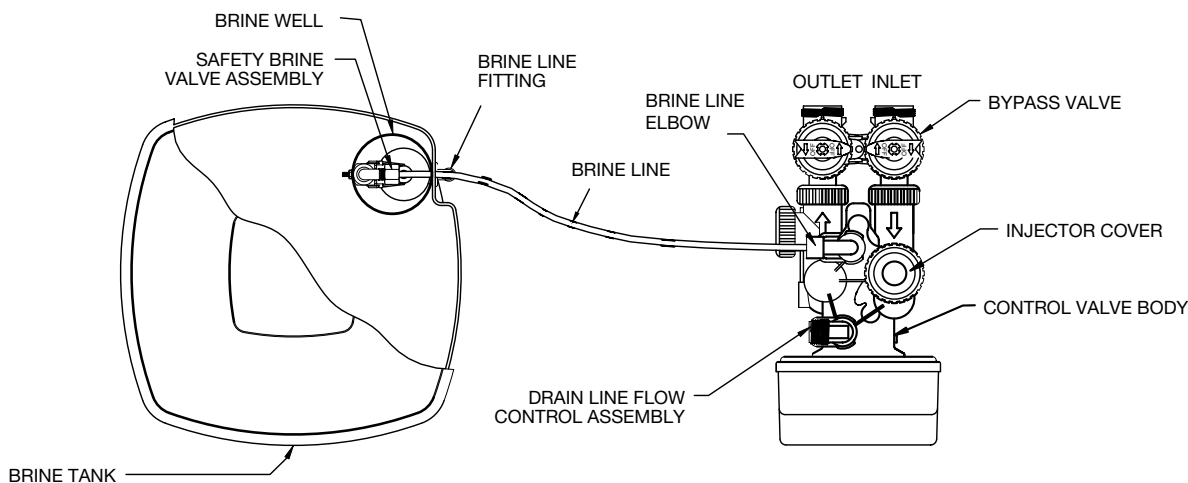

Figure 2. SOFTENER AND BRINE TANK ASSEMBLY, TOP VIEW
Step 10) Install the overflow line to the brine tank overflow fitting (Figure 2). The overflow discharge must be lower than the overflow fitting. **DO NOT** interconnect overflow line with valve drain line.